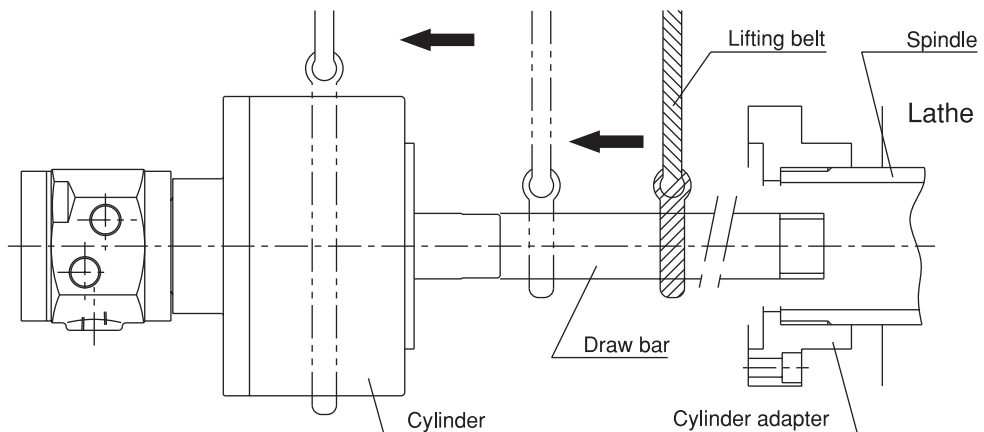

Fig. 12
- When removing/installing the cylinder, use a lifting belt and perform as follows. (Fig.12)